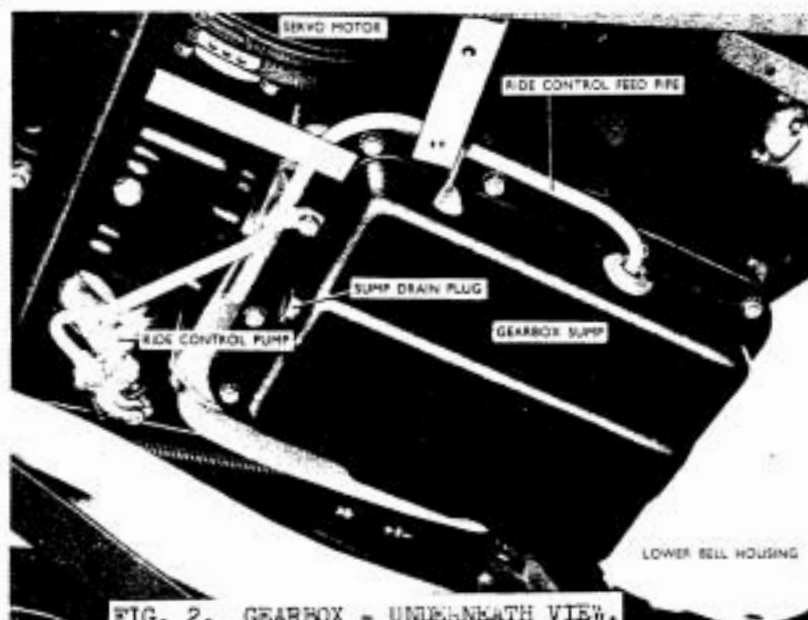

FIG. 2. GEARBOX - UNDERNEATH VIEW.
- (iii) Thoroughly clean the underside of the gearbox sump around the drain plug, sump joint and the oil pipe connection on the ride control pump, see Fig. 2.
- (iv) Remove the two bolts securing the ride control feed pipe to the ride control pump, see Fig. 2.